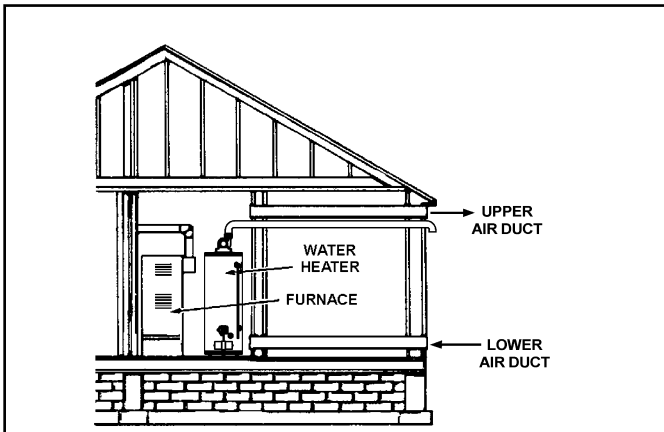

Figure 20
3. When communicating with the outdoors through horizontal ducts, each opening shall have a minimum free area of 1 square inch per 2,000 Btu/hr (11 cm²/kW) of total input rating of all equipment in the enclosure (see Figure 20).
- When ducts are used, they shall be of the same cross-sectional area as the free area of the openings to which they connect. The minimum short side dimension of rectangular air ducts shall not be less than 3" (76mm) (see Figure 20).